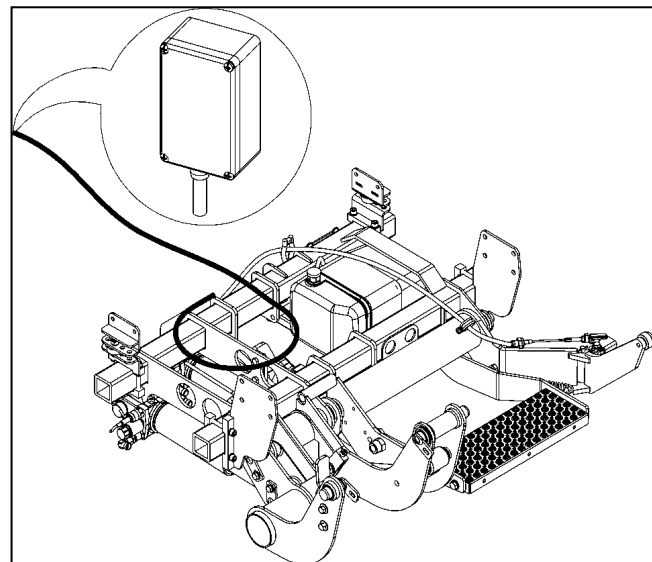

Figure 17
- Route the control unit cable for service switch connection to the vehicle cargo area (Fig. 17).